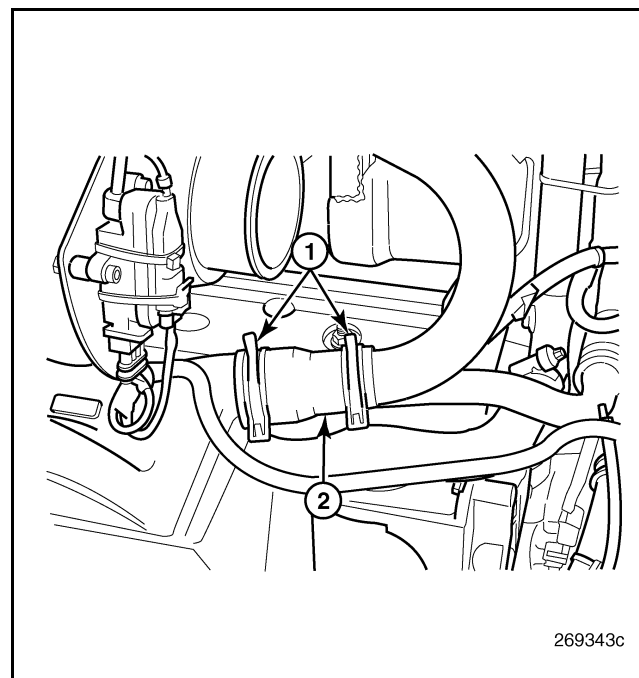

Figure 490 — Cool Tube Hose Connection (Cooler Connection Shown)
3. Place the cool tube assembly in position on the engine between the EGR mixer tube and cooler ports (or coupling adapters). Slide the coupling hoses onto the ports/adapters and secure with the hose clamps (Figure 490).